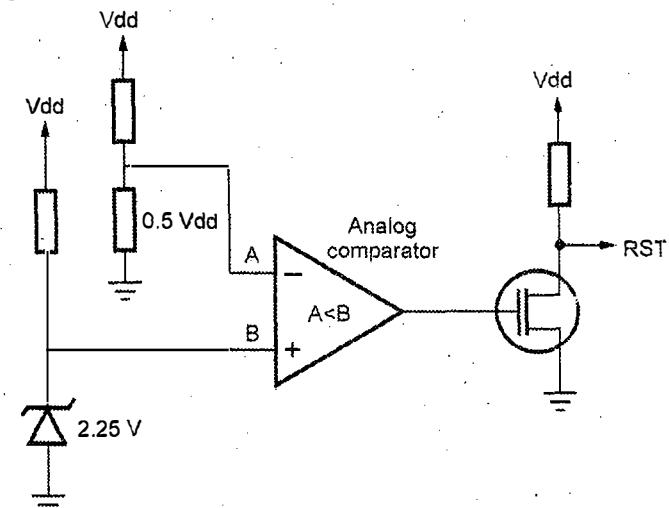

Fig. Q.12.2 : Brown on detect
- Mostly all microcontrollers have built in Brown-out Detection (BOD) circuit, which monitors supply voltage level during operation. BOD circuit in Fig. Q.12.2 is nothing more than a comparator, which compares supply voltage to a fixed trigger level.